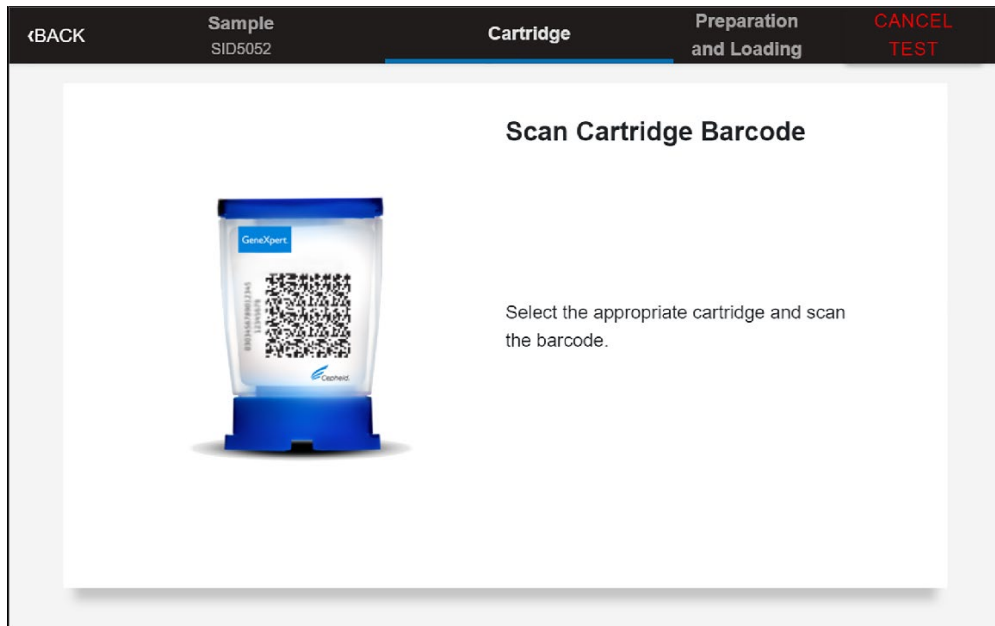

Figure 4. Scan Cartridge Barcode Screen
6. Verify the Sample ID and touch **CONFIRM**. The **Scan Cartridge Barcode** screen displays (see Figure 4).